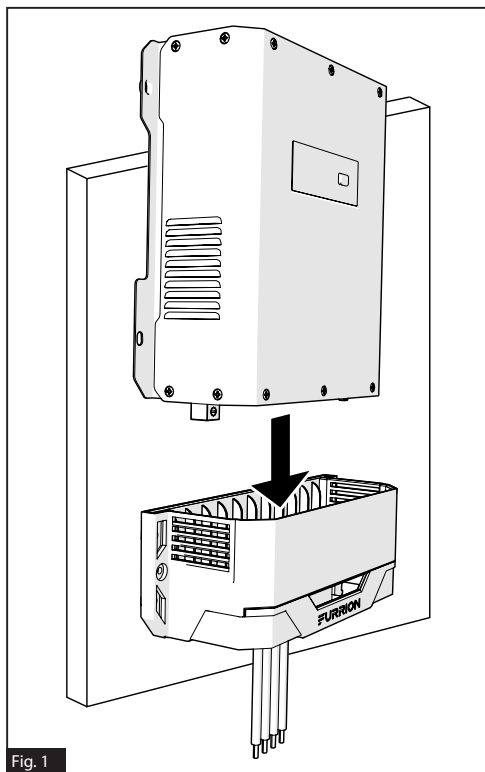

Fig. 1
1. Insert the MPPT controller into the Solar Charge Controller Mounting Bracket (FSCC60PWM-BL). (Figure 1)